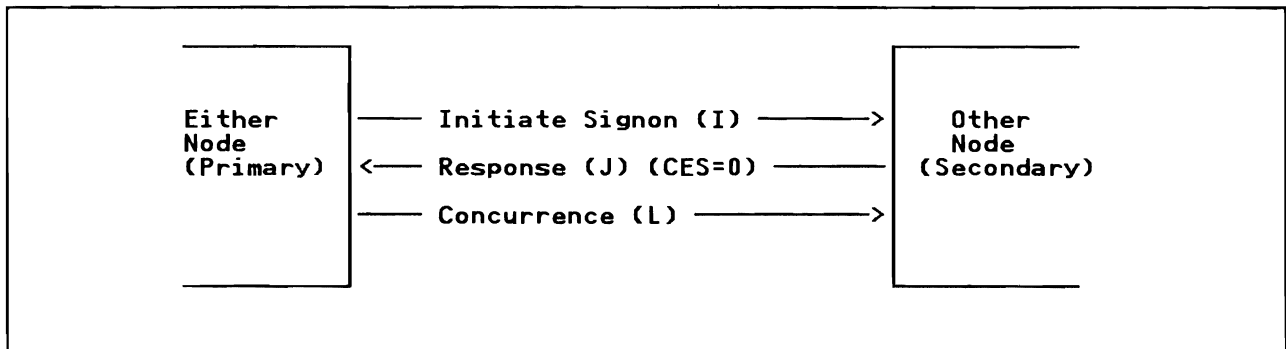

Figure 2-5. Secondary Trunk Connection
A secondary trunk is a line directly connecting two systems already directly connected when the secondary connection is made and the new line resistance is not less than the original. Since this does not represent a new connection no CES is assigned and no distinction is made between 'low' end or 'high' end. In this case the multi-trunk flag must be set on in the response (J) record. If the new line resistance is less than the original, this becomes the primary trunk with the CES not equal to zero. Figure 2-5 illustrates secondary full connection protocol.